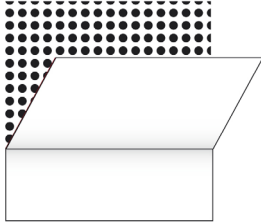

Figure 05
- › Once the graphic is correctly positioned and applied to the top, remove the masking tape and the liner. (FIG. 05)